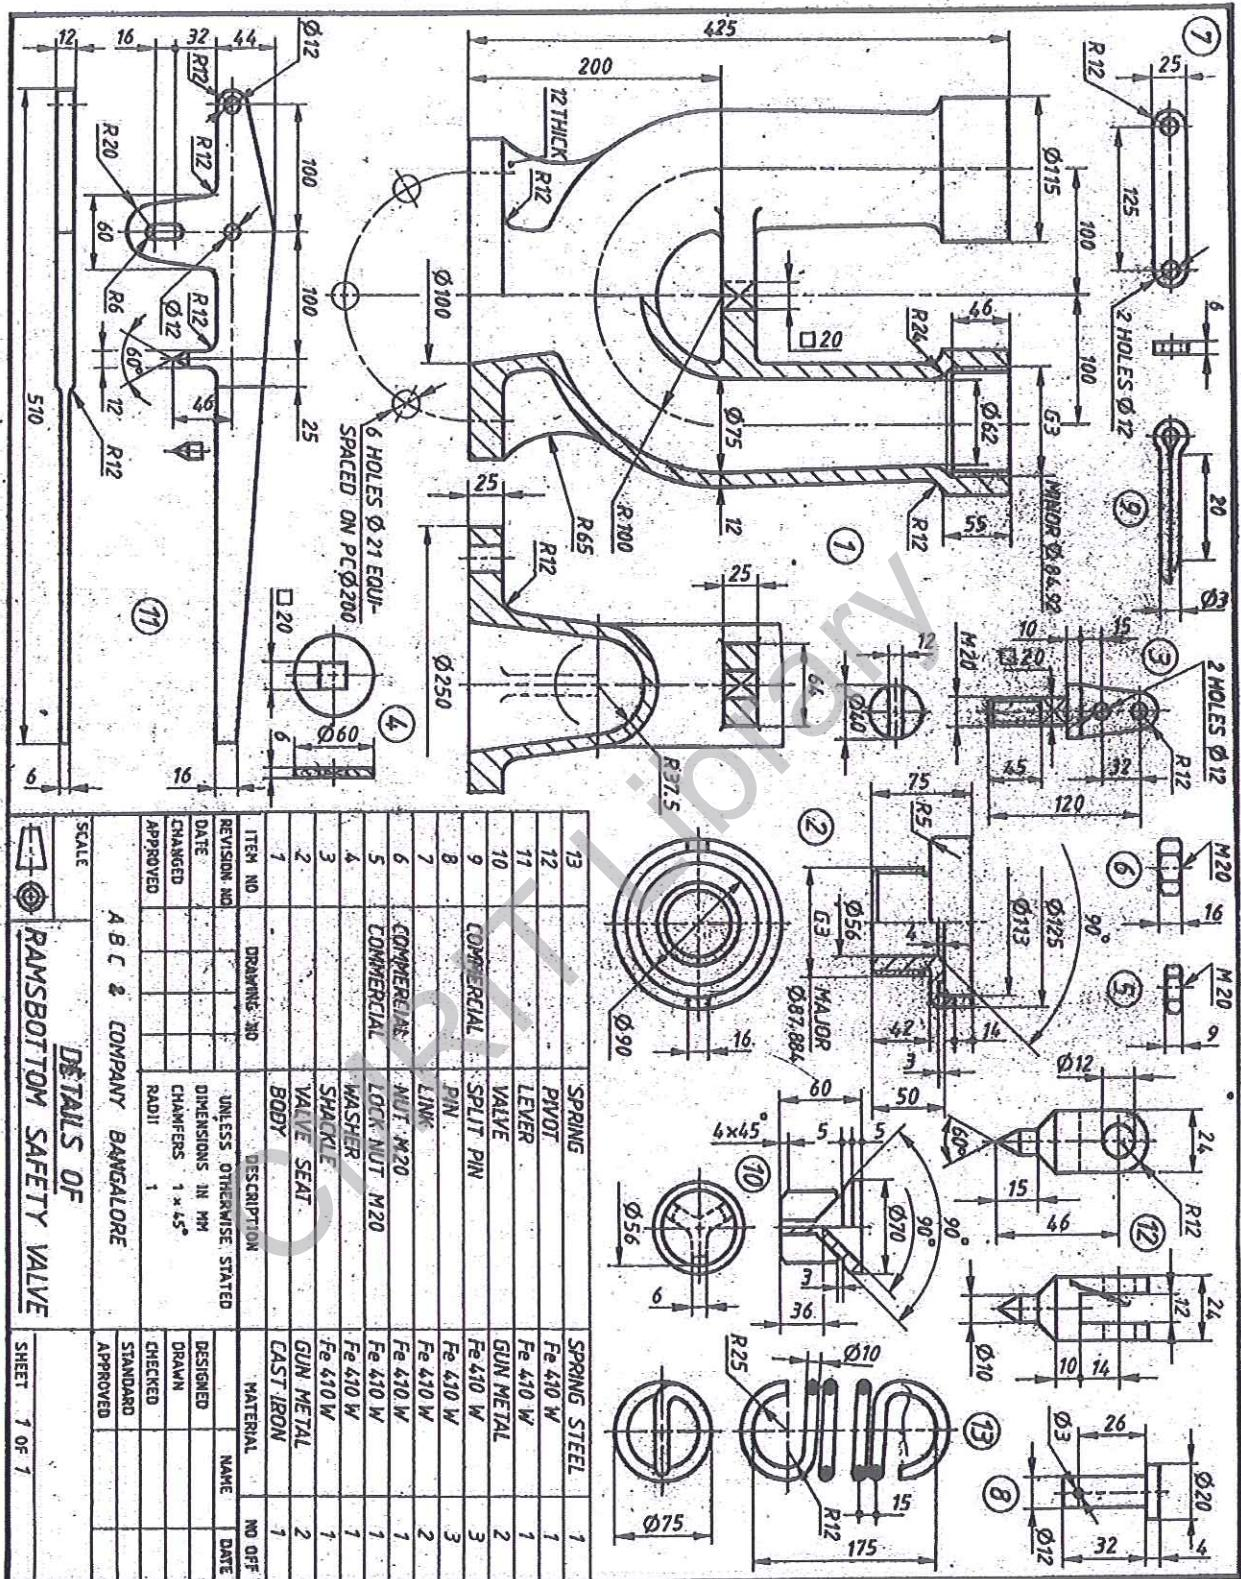

Figure 2. "RAMSBOTTOM SAFETY VALVE".
Q.No.6 Figure 2. Shows the details of a “RAMS BOTTOM SAFETY VALVE”. Assemble the parts and draw